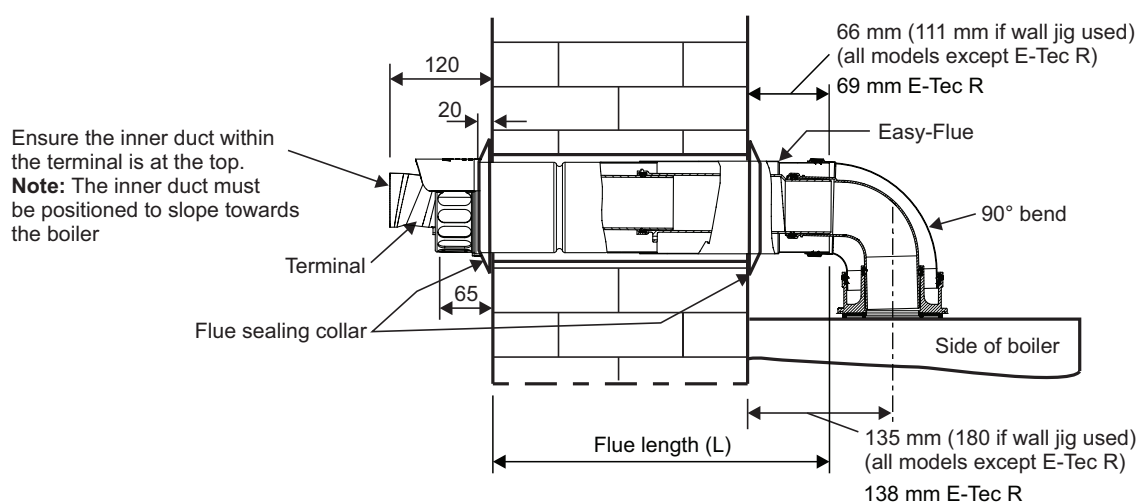

Fig. 5 - Rear flue
- Note:** Check the flue terminal protrudes 120 mm out of the wall and the inner duct of the terminal is positioned correctly (see Fig. 5).
Note: Check the flue terminal protrudes 120 mm out of the wall and the inner duct of the terminal is positioned correctly (see Fig. 5).